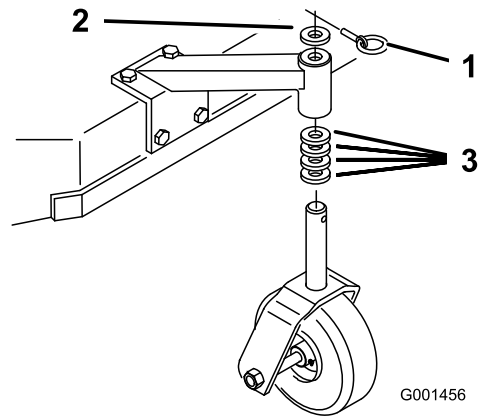

Figure 17
1. Using the Height-of-Cut Chart \(page 22\), adjust the caster spacers to match with the axle hole selected (Figure 17).
2. Remove the latch pin, slide the caster from the support, and change the spacers (Figure 17).
3. Install the caster in the support and insert the latch pin (Figure 17).